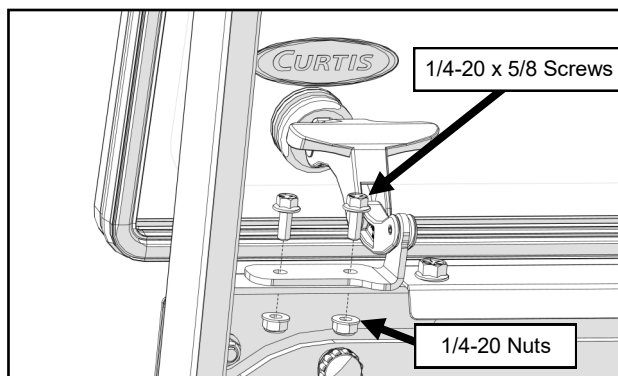

Fig. 11.2 (Secure Windshield Latches)
- 11.2 Secure the windshield latches to the side frames with the latches open, and tighten latch hardware. See Figure 11.2.